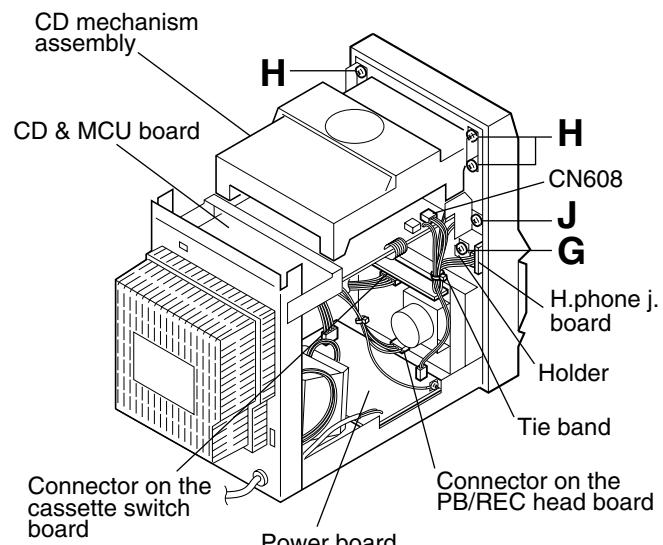

Fig.10
(See Figs. 10 to 12.)
1. From the left side of the main body, remove the tie band bundling the wires. (See Fig.10.)
2. Disconnect the wire from the connector on the cassette switch board. (See Fig.10.)
3. Remove the screw **G** retaining the holder on the H.phone j. board. (See Fig.10.)
(See Figs.10 and 11.)
5. Remove the four screws **H** and the two screws **J** retaining the CD mechanism assembly from the left and right. (See Figs.10 and 11.)